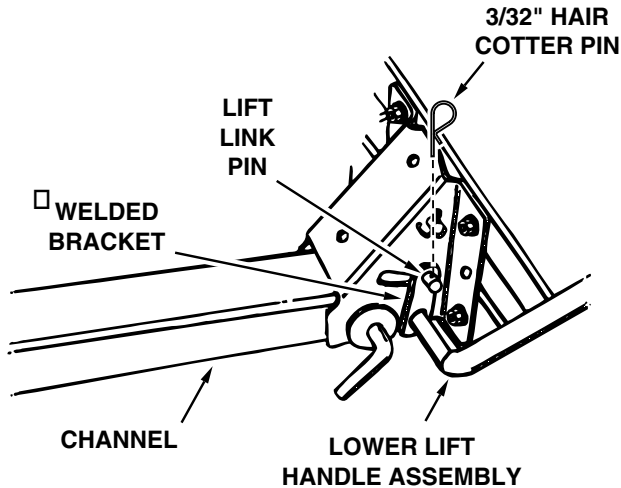

Figure 11
21. Insert the end of the lower lift handle assembly through the notch in the pivot support bracket and through the holes in the channel. Align the lift link pin with the hole in the welded bracket on the lower lift handle assembly. Insert the lift link pin through the hole in the bracket and secure it with a 3/32" hair cotter pin. See figure 11.